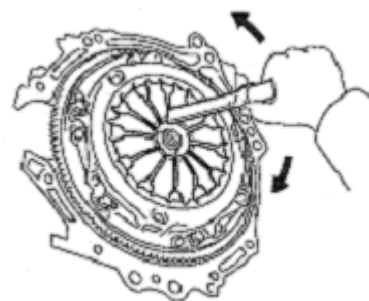

Figure 138
(2) Shake the clutch plate up and down, left and right to ensure it is centered, then tighten the bolt.
15. Check and adjust the clutch cover. See (Figure 138)